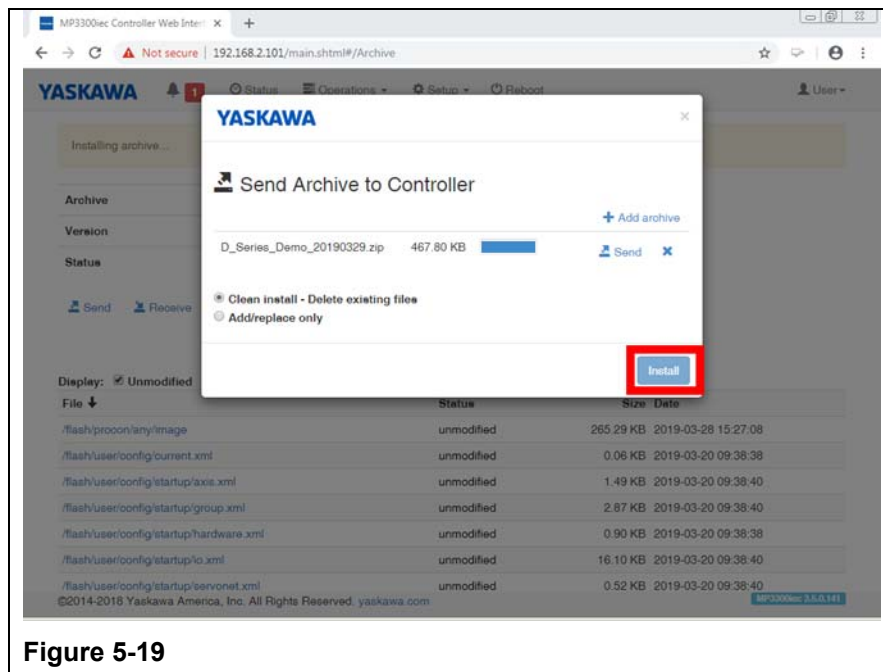

Figure 5-19
- vi. When the send progression bar to the left of the Send option is complete, then press the "Install" pushbutton in the lower right-hand corner of this Dialog box. Allow the Archive to fully install. (Refer to Figure 5-19)